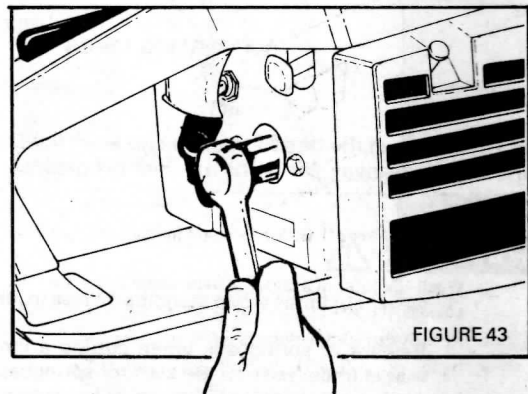

FIGURE 43
3. Remove spark plug with spark plug wrench. (Figure 43).